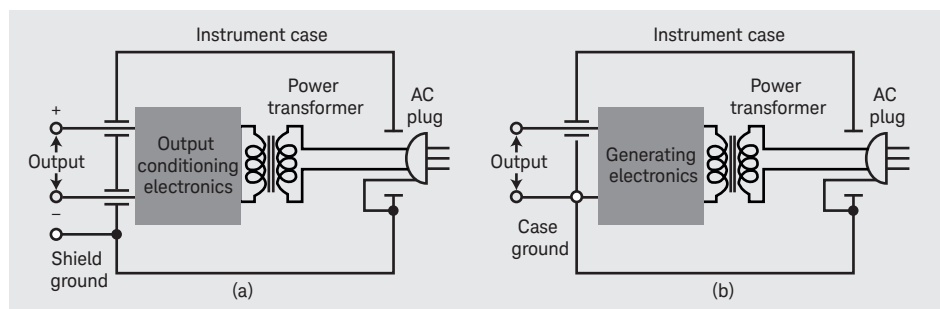

Figure 4.
Figure 4(a) and 4(b) show some common instruments for output devices. For DC or low frequency generators, the design shown in 4(a) is usually adopted, while for high frequency (RF) generators, the model in 4(b) is used. Therefore, special attention is required to avoid the problem described in item (1) when performing a high frequency measurement. Otherwise, the voltage difference and conflict may cause damage to the input and output of instrument circuits.